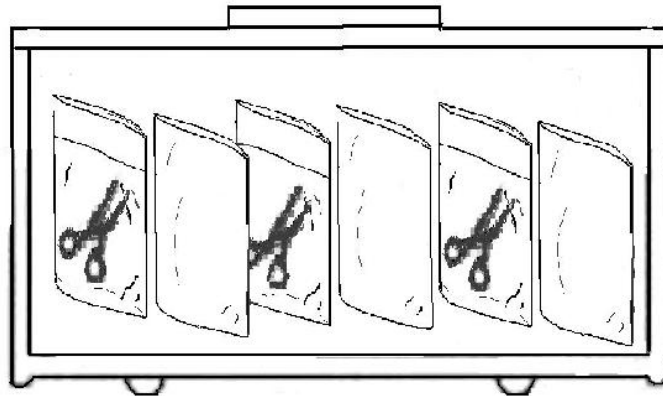

Figure 27
**Warning:** If implements are packed with sterilizing pouches and placed inside a sterilization box, make sure to display items as Figure 27.